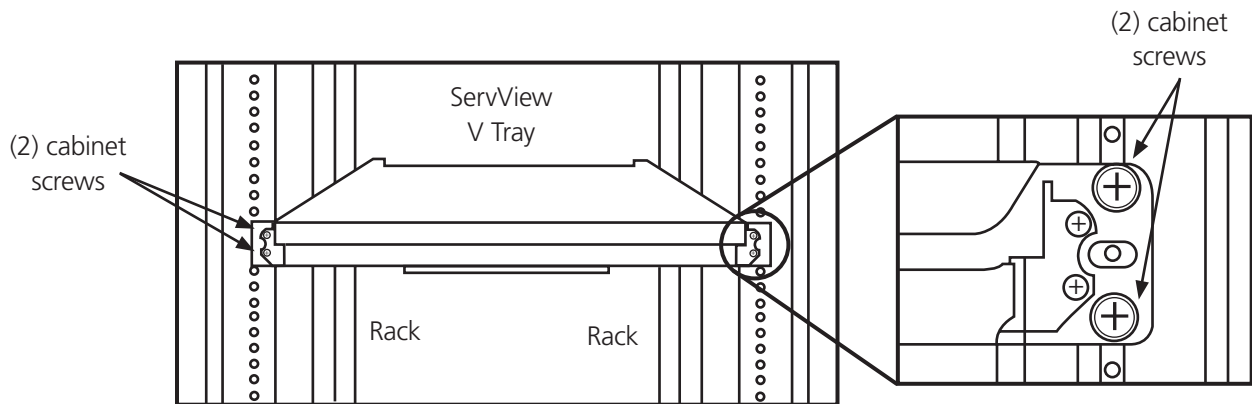

Figure 3-6. Securing the ServView V KVM Tray to the rack.
3. Using four cabinet screws (included), screw the unit onto the rack. See Figures 3-6 and 3-7.